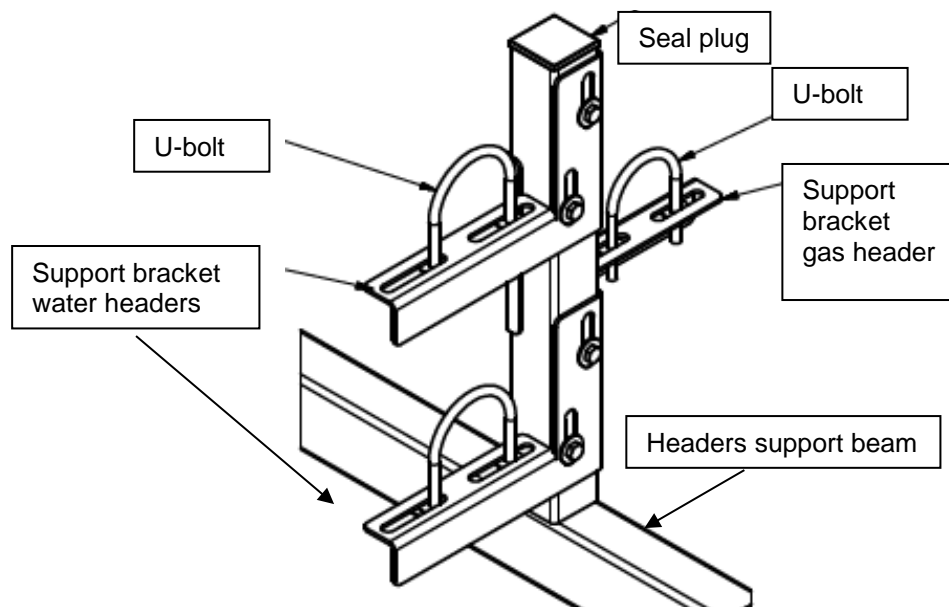

Figure 7.2 Headers support beam and support brackets
2. Mount the support brackets for the gas header at nominal height. See also Figure 7.2.
1. Mount the support brackets for the return header at nominal height. See also Figure 7.2.
4. Mount the support brackets for the supply header. See also Figure 7.2.